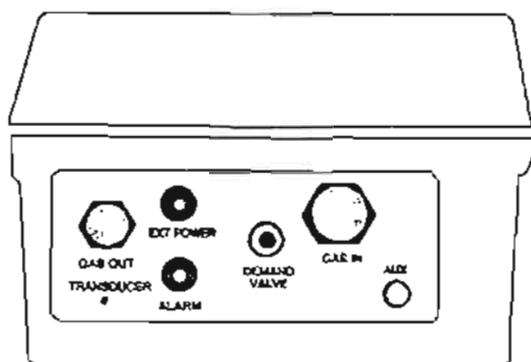

Figure 4-5. Connector panel markings.
(2) Connector panel (fig 4-5).